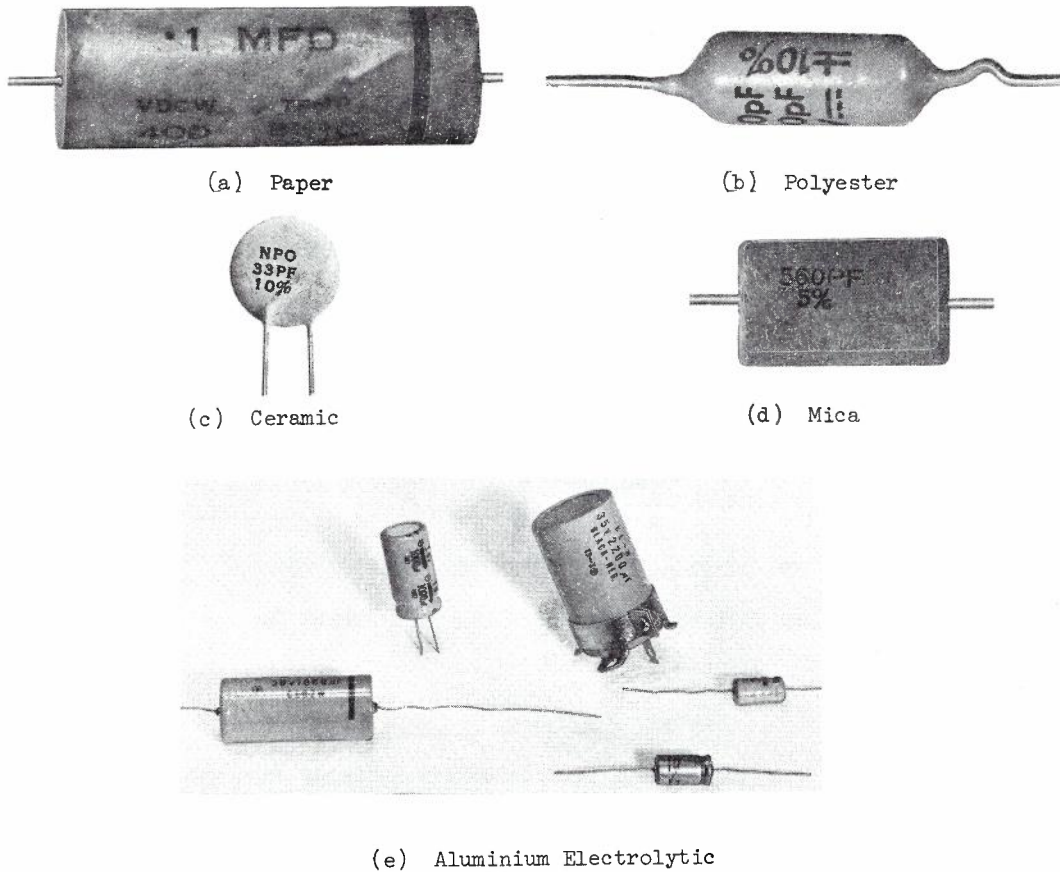

FIG. 19. SOME FIXED CAPACITOR SHAPES.
4.3 FIXED CAPACITORS – SHAPES. Fig. 19 gives examples of typical capacitor shapes. The capacitors are designated according to types of dielectric materials, as this often determines the external appearance.
4.4 FIXED CAPACITORS – LEAD STYLES. As shown in Fig. 19, capacitors are made with various lead styles.
Tubular electrolytics with pigtail leads at each end have a slight deformation of the body at the anode lead end. The anode lead is normally fed through an insulator, and the cathode lead is soldered to the metal case of the body. Examples are shown in Fig. 19 e.